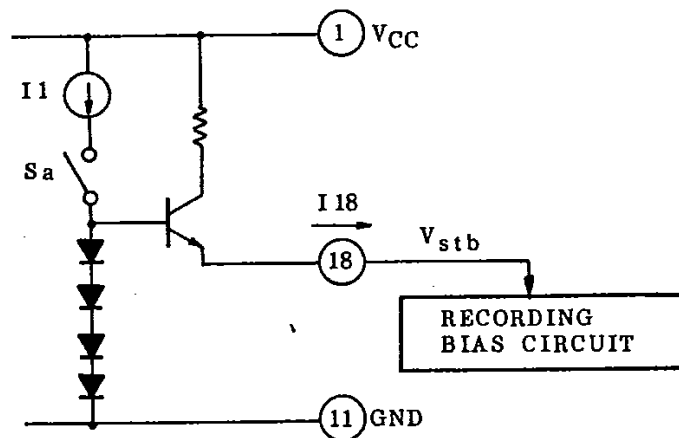

Fig. 1
The equivalent circuit of (18) pin is shown in Fig. 1.